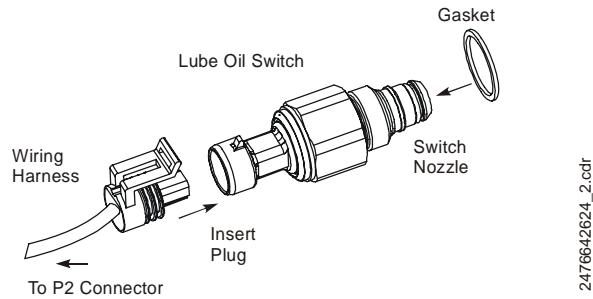

Figure 2: Connecting the Wiring Harness to the P400 Switch
2. Fit the gasket over the nozzle as shown in Figure 2.
- Insert the plug into the connector until it snaps and locks in place. See Figure 2.